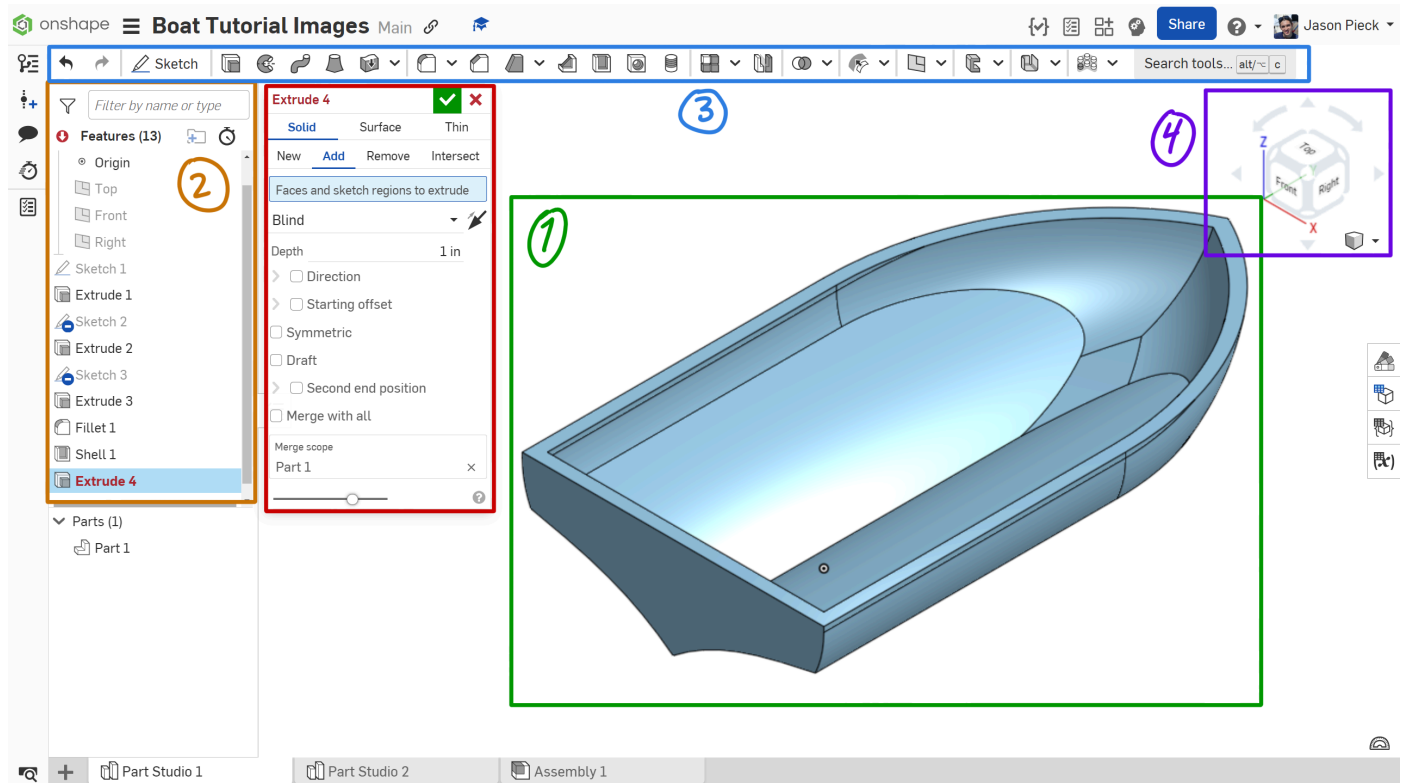

Figure 1
As part of the team's training regimen, you and your team will be asked to design, model, assemble, wire, and program a small model boat. The primary goal of this document is to familiarize yourself with the fundamentals of computer aided design (CAD) design in Onshape. No prior experience in any CAD software is required to follow along. By the end of the tutorial, you will have created a model boat like the one seen in Figure 1 that you and your team are encouraged to build off of.
Looking closer at Figure 1, Box (1) is the the "Graphics Area" and is where you view your model . If you select a part of the model, you will see that a corresponding "Feature" will be highlighted in the "Feature List" in Box (2). The Feature List keeps a history of every operation you have performed, and allows you to go back and make changes to earlier states of the model. To add to the Feature List, you can select actions on the "toolbar" in Box (3). When you click on a tool, a dialog window like seen in Box (4) appears next to your feature list, and let house the parameters that let you modify your current operation.